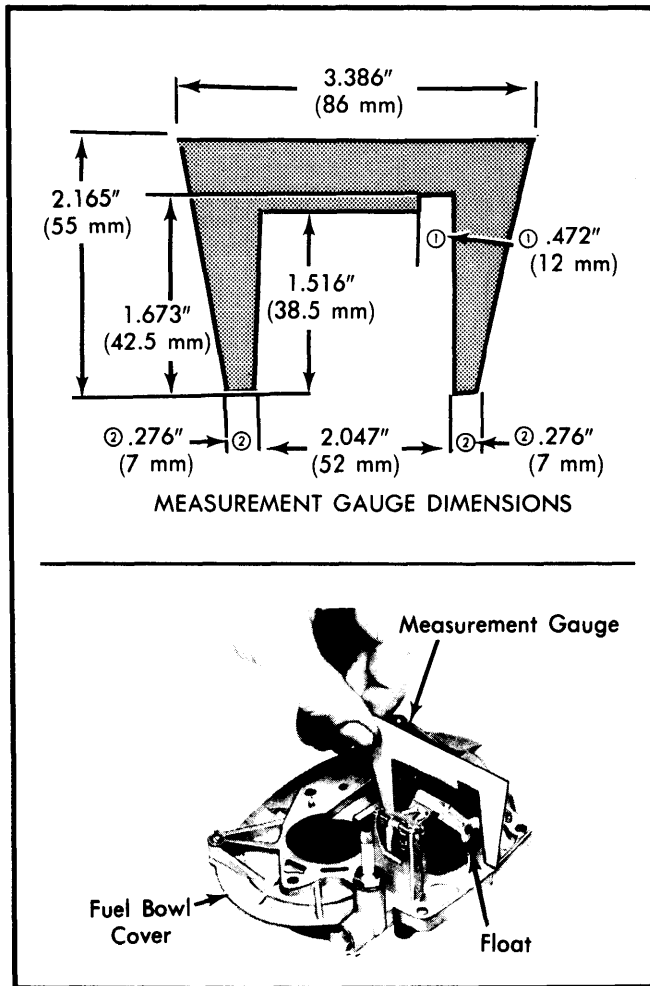

Fig. 1 Float Level Adjustment Showing Fabricated Measurement Gauge
- 1) Fabricate a float position measurement gauge to dimensions shown in Fig. 1. Position gauge over float, allowing float weight to gently compress needle valve ball. Note position of float gauge and float.